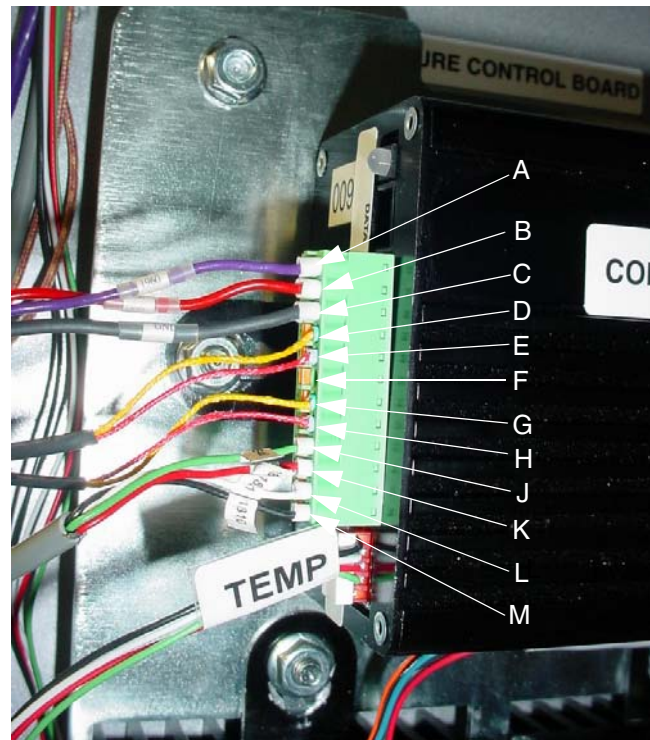

FIG. 21
10. Connect 5-pin connector (TEMP) below 12-pin connector. See FIG. 21.